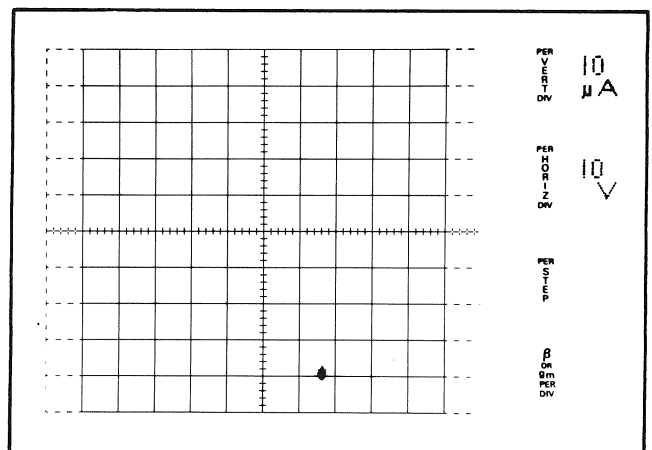

Fig. 2-8.  $BV_{CES}$ , Test 9; and  $BV_{CBO}$ , Test 10.
11. Press the ADVANCE button. The 172 will switch to Test 9,  $BV_{CES}$ . Check the display to see that the programmed drive current (10  $\mu\text{A}$ ) is flowing and that  $BV_{CES}$  is at least 40 V. See Fig. 2-8.
12. ADVANCE the 172 to Test 10,  $BV_{CBO}$ . Verify that the programmed drive current (10  $\mu\text{A}$ ) is flowing and that  $BV_{CBO}$  is at least 40 V. See Fig. 2-8. Tests 9 and 10 displays are in the same place. They may be separated (for easier use) by programming different vertical deflection factors.